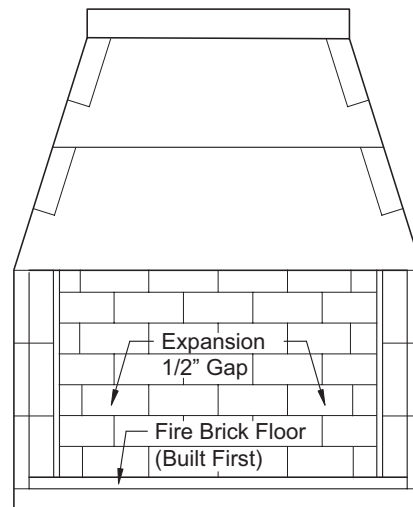

FIGURE 28
4. Next, apply firebrick to the back wall of the unit. The back wall firebrick covers the 1/2" expansion gap left at the brick floor along the back wall of the firebox. **(Figure 28)**